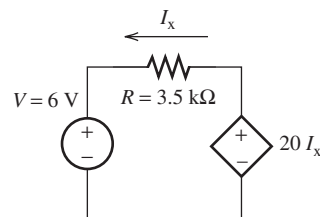

FIGURE P2.63 Circuit for Problem 2.63.
2.63 (A) Find the value of I_x in Figure P2.63.